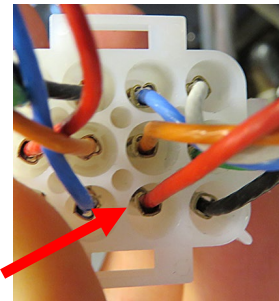

Figure 22
24. Insert the red wire into Pin 4 (see Figure 22).